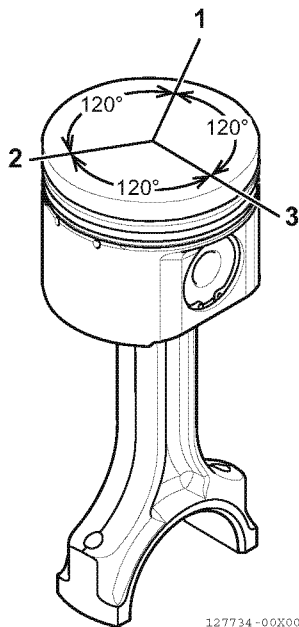

Fig.12-16
9. Alternately arrange the end gap of each piston ring so that there is 120° space between each other (1, 2, 3, Fig.12-16). Do not position the top compression ring end gap (1, Fig.12-16) in line with the piston pin.
1. Make sure that each end gap in the piston rings is in the correct position. (See Fig.12-16).